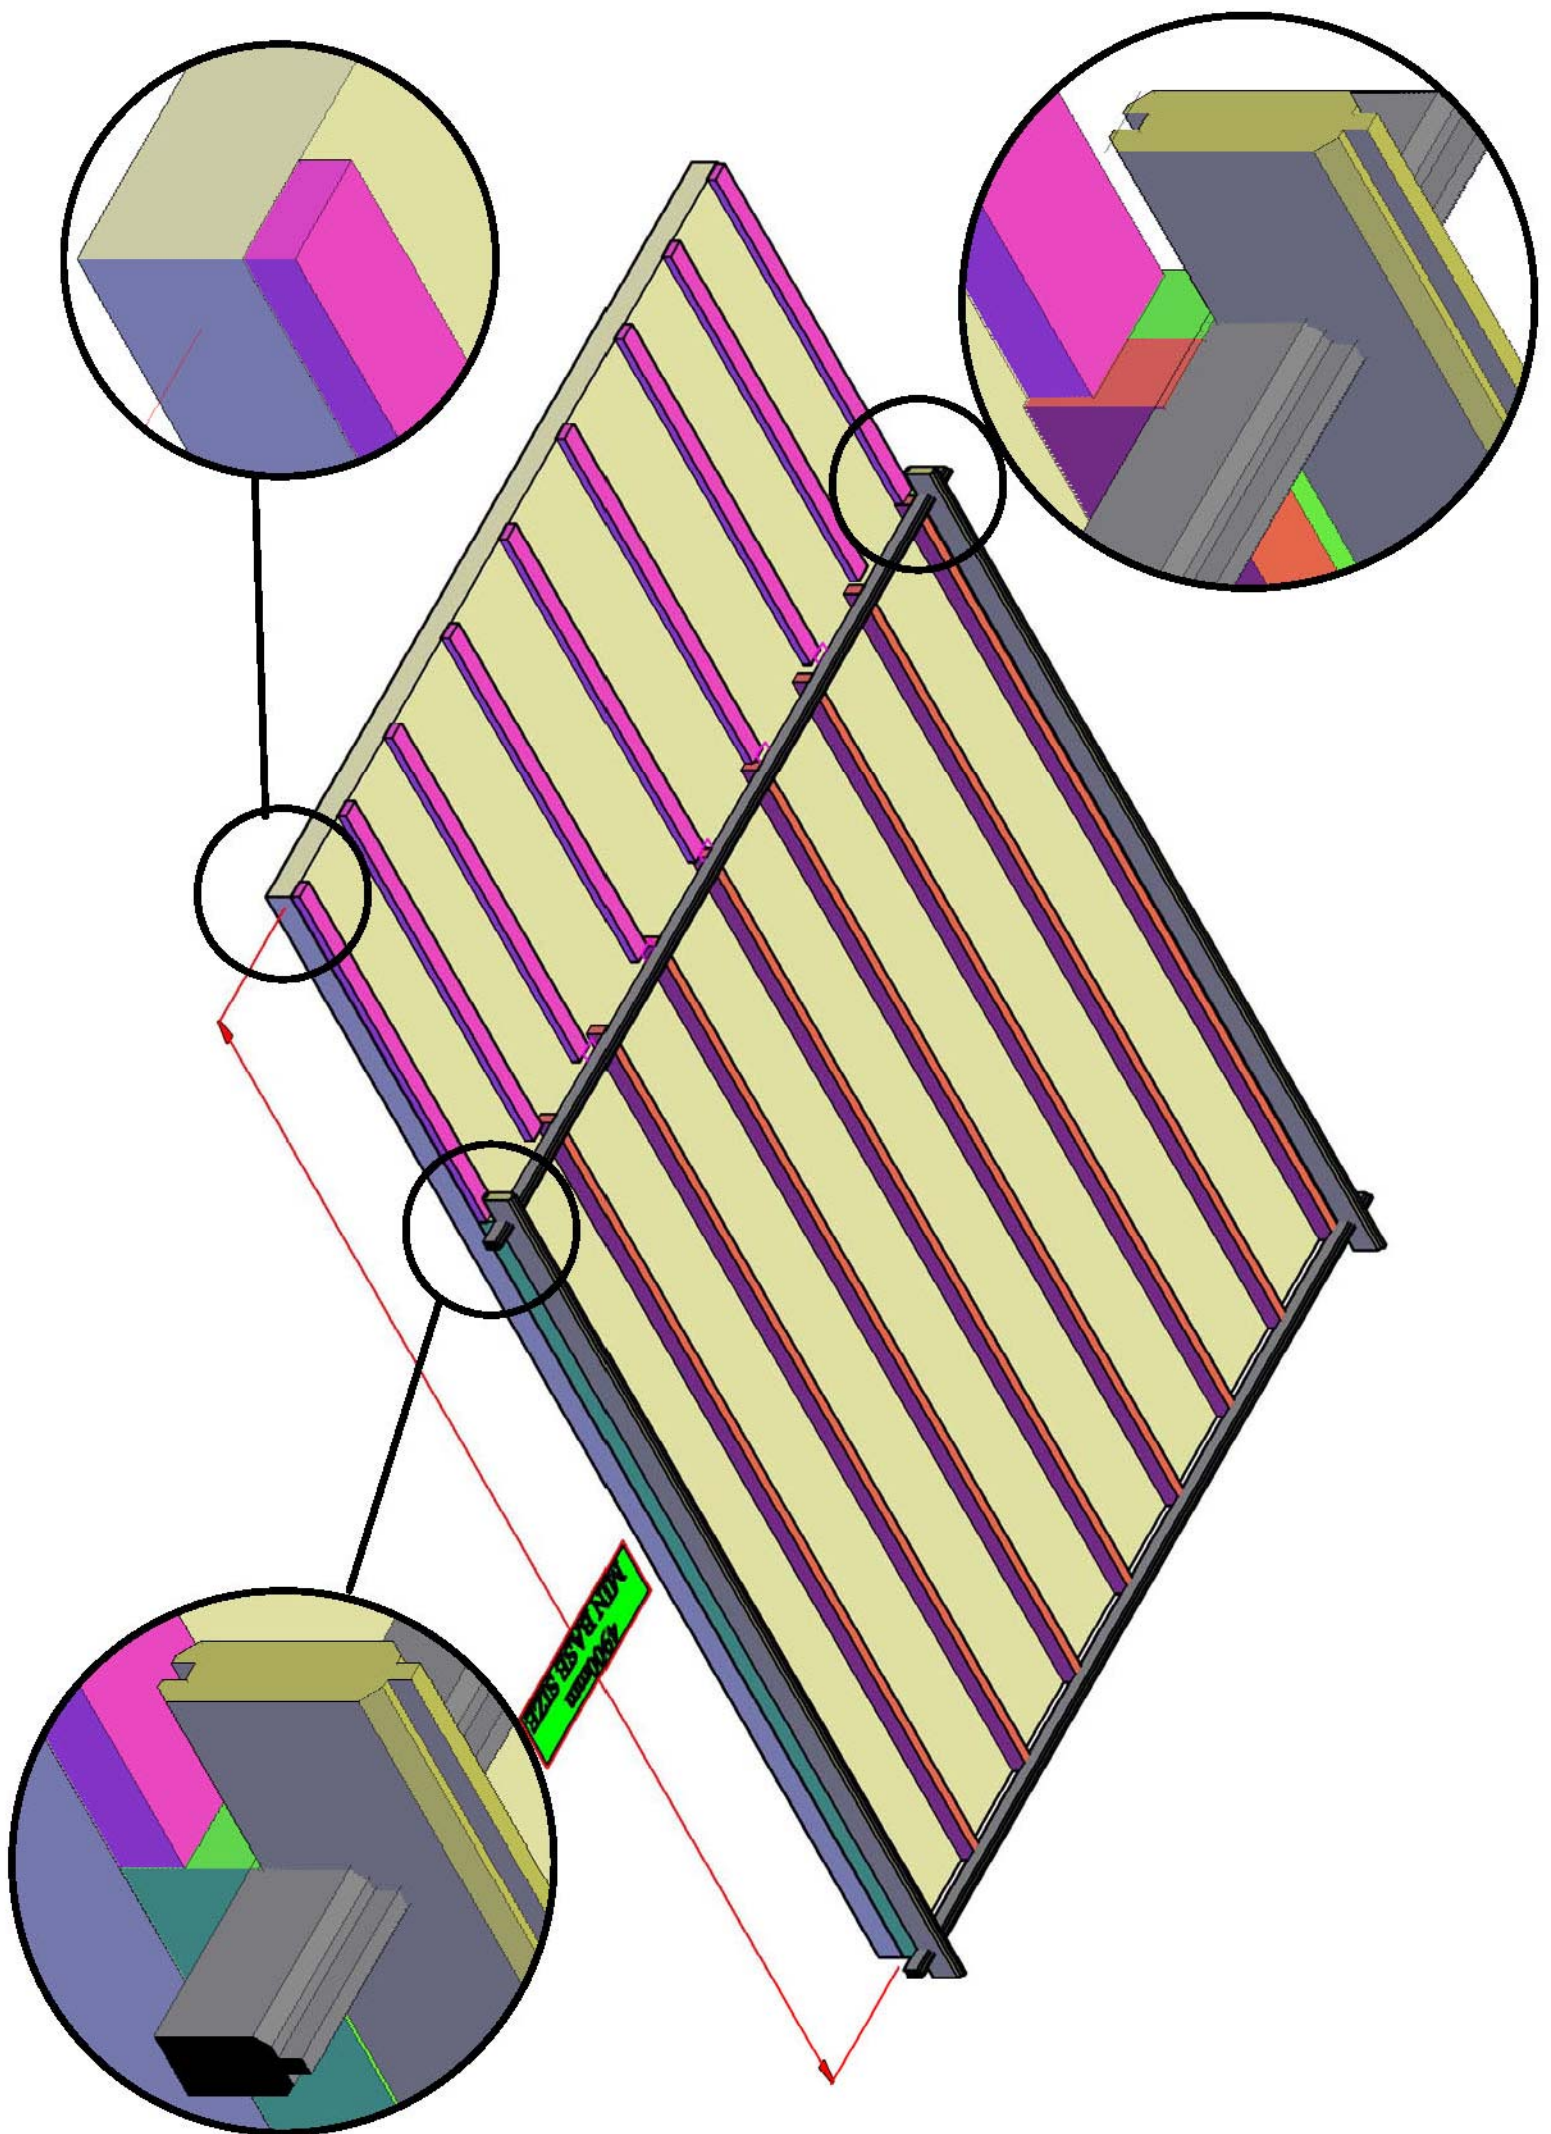

Fig L1
- Hold into position with four pieces of beading . The beading may need to be swapped around to get the best fit. When satisfied secure into position using 2x15mm panel pins per piece of beading. (fig L1)Repeat for all window and door apertures.